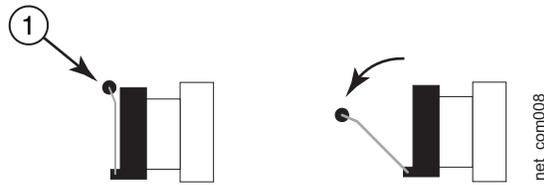

Figure 12. Disconnecting a fiber optic module latch
4. Pull the fiber optic module out of the port by pulling the latch (**1**) forward, away from the front panel of the module as shown in Figure 12 on page 32. This unlocks the module from the front panel. On 1000BaseSX ports, the latch is enclosed in a black sleeve, and on 1000BaseLX ports, the bail latch is enclosed in a blue sleeve.